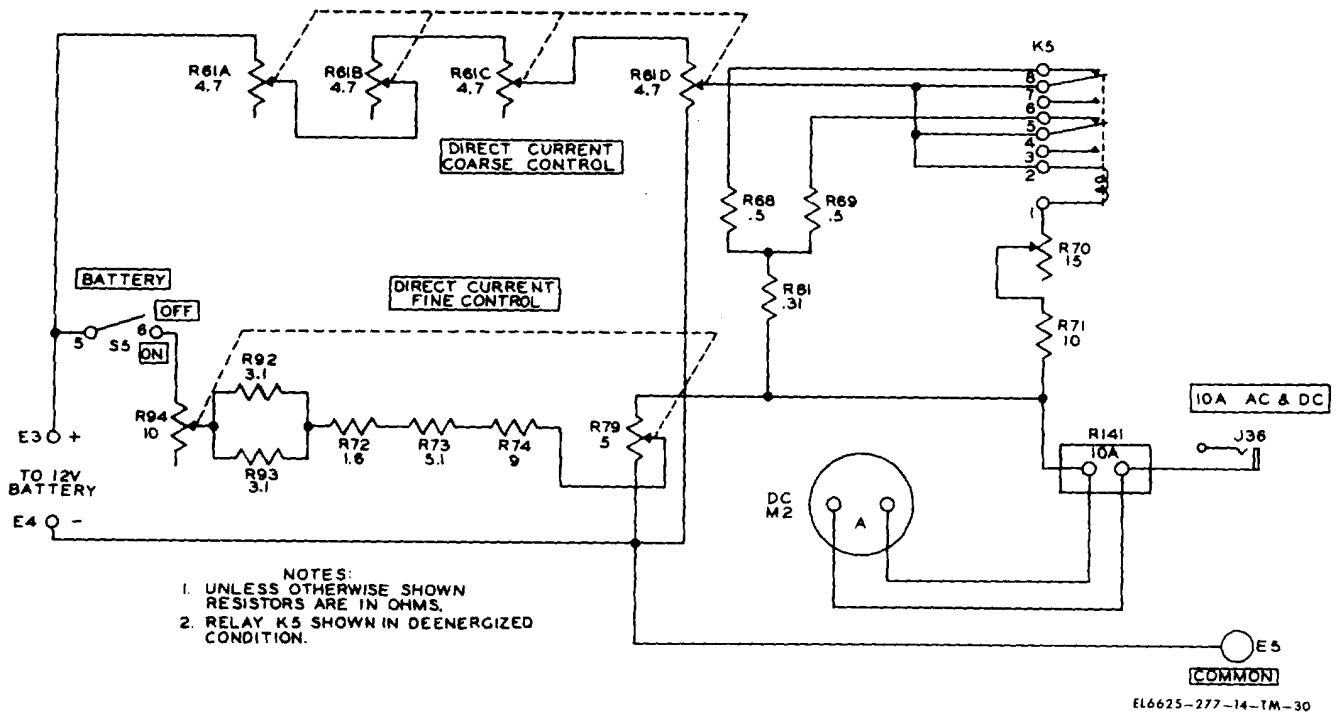

Figure 5-18. Ten ampere dc test circuit, simplified schematic diagram.
f. *Ten-Ampere Dc Test Circuit (fig. 5-18).* For the 10-ampere dc test circuit, there are two networks for regulating the supply of current to the meter under test. The DIRECT CURRENT COARSE CONTROL consists of resistors R61A, R61B, R61C, R61D, R68, R69, R71, R81, and variable rheostat R70; and the DIRECT CURRENT FINE CONTROL consists of resistors R92,